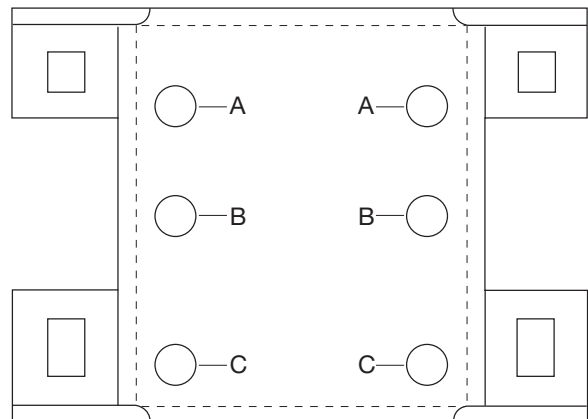

fig. 3
5. Use the lower bracket template to determine the proper mounting location for the air spring. Use the holes marked "C" for mounting. Attach lower bracket (C) and roll plate to the bottom of the air spring. Attach so that the bracket offsets to the outside of the axle. Use two bolts (F) and lock washers (L). See Figure 3.